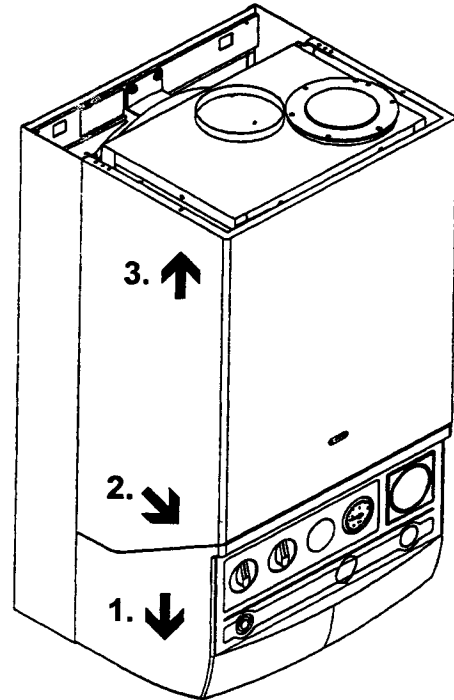

Fig. 23
8.4.2 To remove the upper outer casing disengage the 2 locating pins at the bottom left and bottom right corners by pulling the casing forwards. Slightly lift the casing to disengage from the top suspension hooks. (Fig. 23)